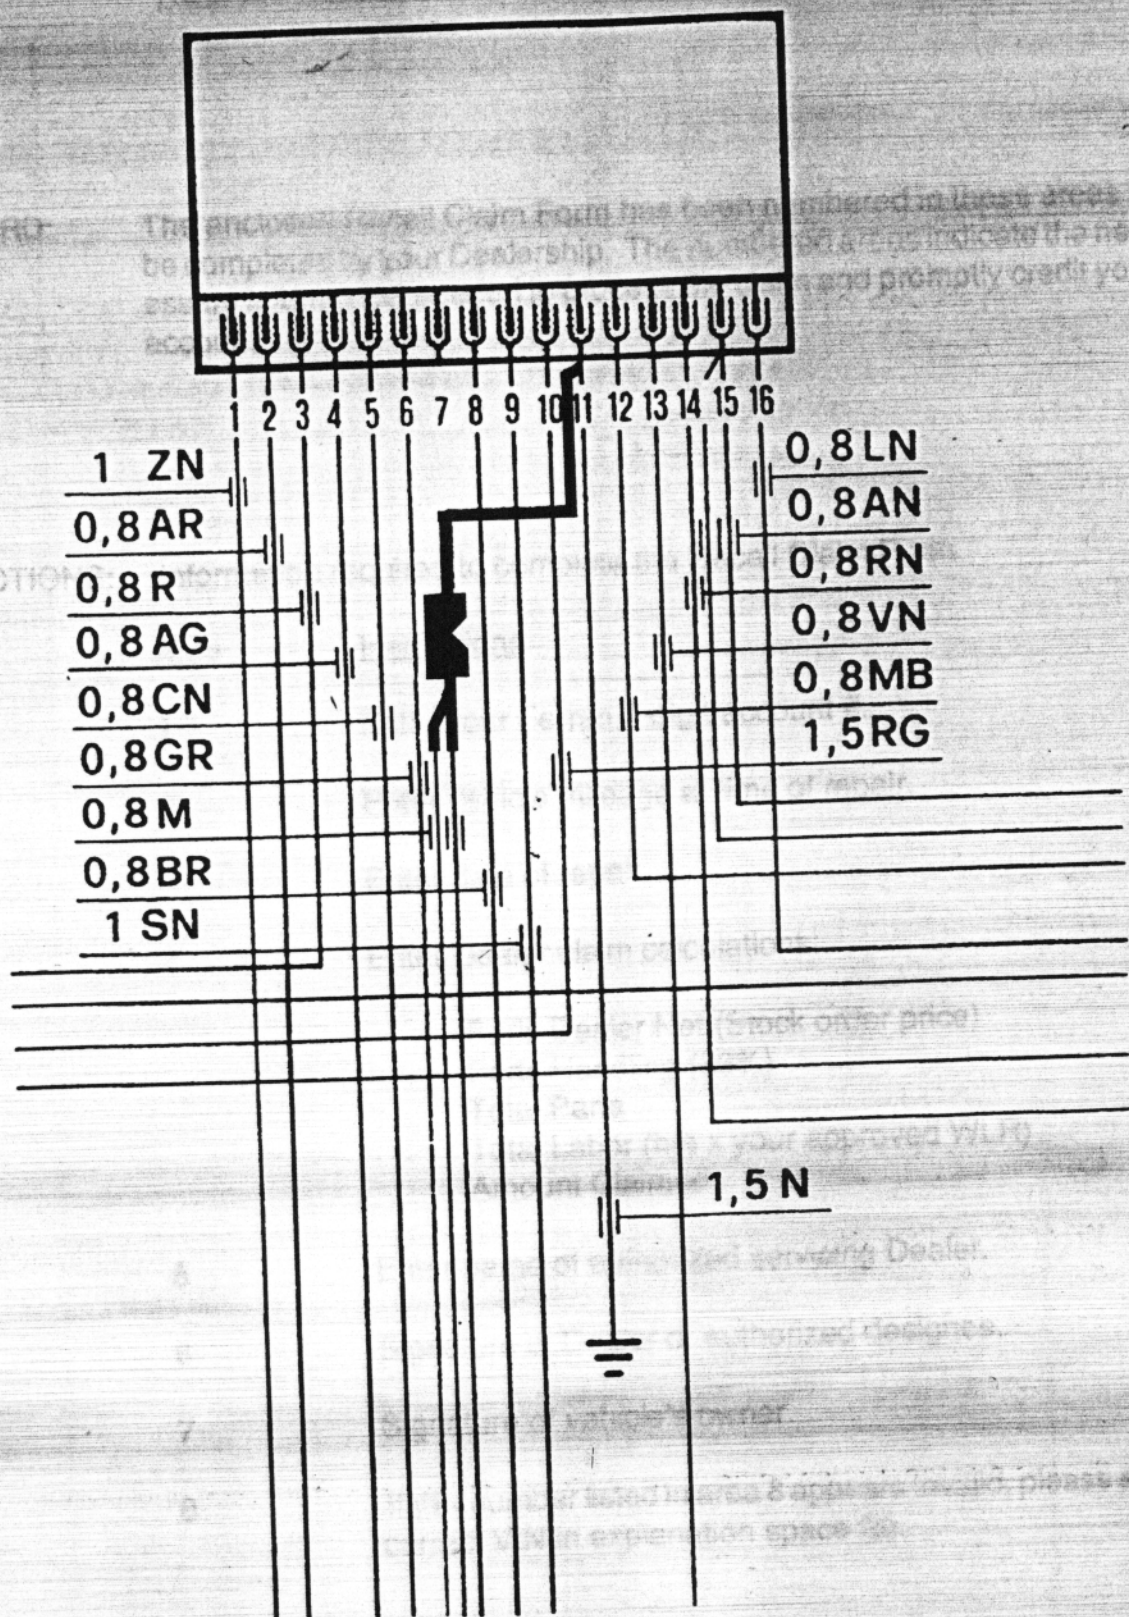

FIGURE 1
3. Remove the 2 wires going to terminal No. 7 of the electrical plug and join together with wire going to terminal No. 11 (Refer to Figure 1).